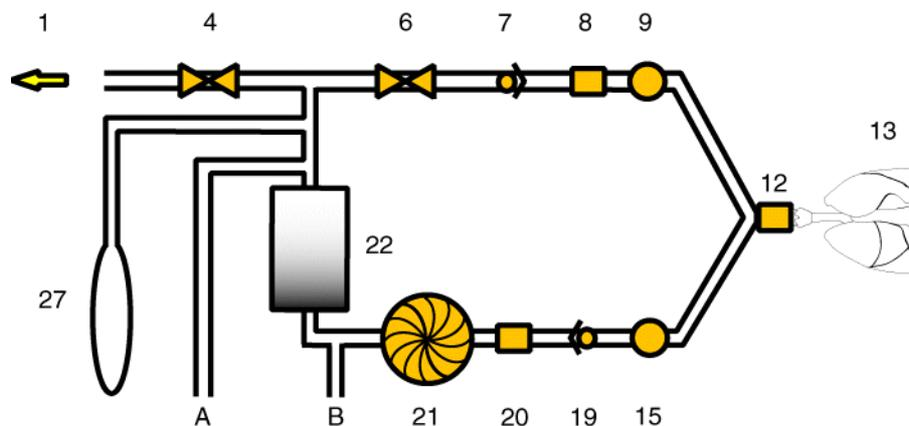

Figure 37 Breathing system, simplified view
The ventilation pressure and the circulatory flow during inhalation and exhalation are attained by means of defined activation of the blower (21) and the flow valve (6) in the breathing system (Figure 37). Fresh gas is drawn out of the manual breathing bag (27).